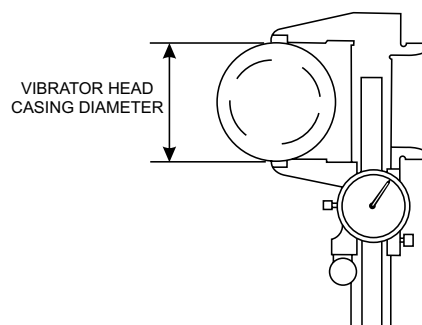

Figure 10. Vibrator Head Diameter
1. Periodically measure the outside diameter (Figure 10) of the vibrator head casing.